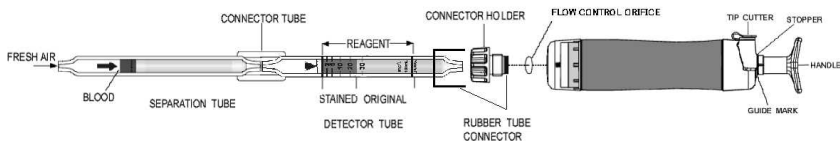

Fig.3
- **MAKE SURE TO ATTACH THE FLOW CONTROL ORIFICE TO THE ASPIRATING PUMP PRIOR TO MEASUREMENT AS SHOWN IN Fig.3.**
- ① Break both ends of a detector tube and a separation tube.
- ② Connect the detector tube and separation tube with the connector tube as shown in Fig.3.
- ③ Insert the detector tube into the aspirating pump securely. (An arrow mark of each tube should point to the aspirating pump.)
- ④ Take 0.3mL of blood into a syringe and insert it into the separation tube.
- ⑤ Align the guide marks on the handle and the stopper of the aspirating pump.
- ⑥ Pull the pump handle at a full stroke until it locks and wait for 3 minutes to aspirate fresh air.
- ⑦ Remove the detector tube from the rubber tube connector and read the scale at a maximum point of a stained layer.